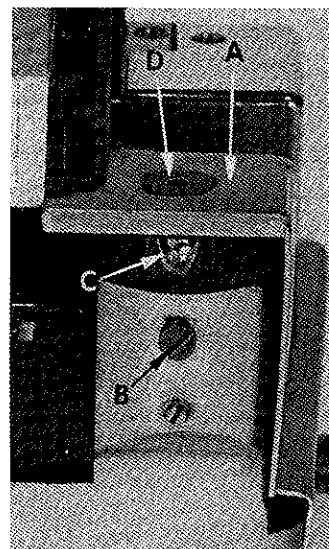

Fig. 15
CAUTION: When removing the cloth plate (A, Fig. 15) loosen the clothplate stud locking screw (B) and lift up cloth plate with the cloth plate stud (C) and cloth plate screw (D), assembled.